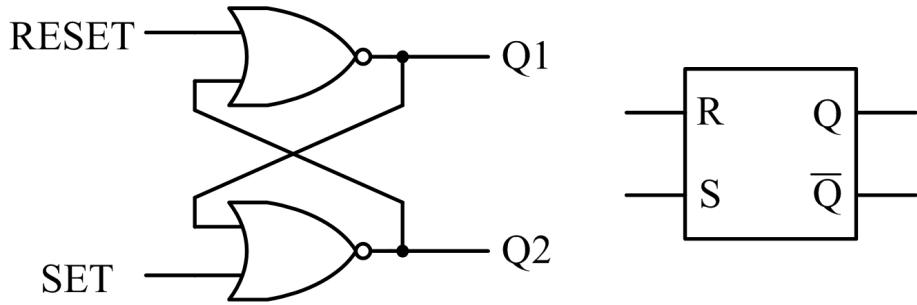

Figure 3.12: S-R latch: Circuit and symbol
The S-R flip-flop (or R-S flip-flop as it is also known) is the simplest form of flip-flop. It has two control lines, *reset* and *set*, and two outputs, and can be constructed from NOR gates as shown in figure 3.12. The circuit emphasises the essential difference between sequential circuits and combinatorial circuits, that is, sequential circuits have a **feedback** path from output to input.
7. Construct an S-R latch based on the circuit given in figure 3.12. Investigate the circuit's behaviour and complete the transition table in the answer sheet.